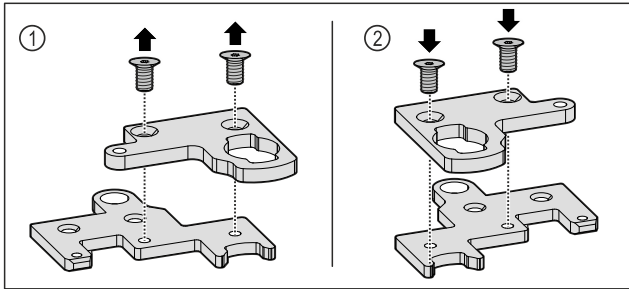

Fig. 27
- Disassemble the two-part hinge bracket. Fig. 27 (1)
- Reassemble the two-part hinge bracket rotated by 180°. Fig. 27 (2)